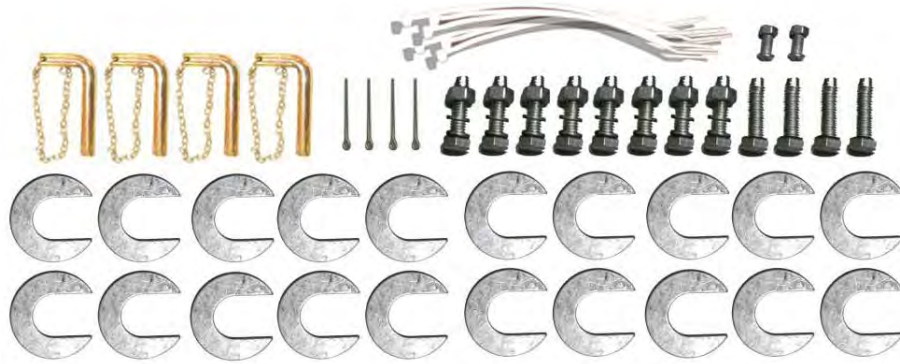

Fig. 19
4.2 Parts bag for lift of flush mount installation (See Fig.19, Fig.20)